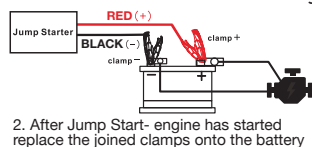
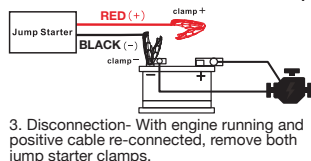

Fig 8
Fig 9
4. Press the ON / OFF Button (4) for approx. 2-4 seconds to activate the Bypass Mode.
6. As soon as the engine starts, reconnect the joined positive leads to the positive battery terminal (Fig 8). Once on the battery terminal, disconnect the Positive Battery Clamp **RED** (1) from the positive battery lead (Fig 9)